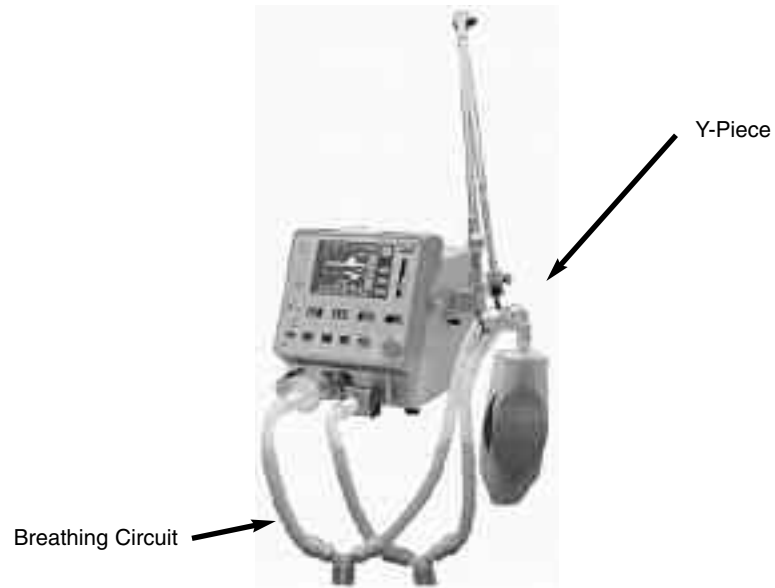

Figure 6-1 Test Setup
- 3 Connect the patient circuit to the e360 ventilator as shown in Figure 6-1.